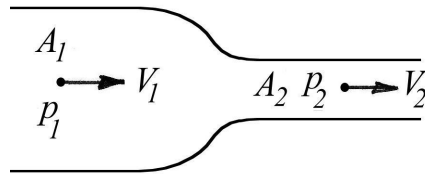

Figure P4.14
4.14 A wind tunnel carrying air of density ρ has two pressure taps in its walls to measure the static pressure, as shown in Figure P4.14. One tap is located upstream of the contraction where the cross-sectional area is A_1 , the velocity is V_1 , and the pressure is p_1 , and the other tap is located in the working section where the area is A_2 , the velocity is V_2 and the pressure is p_2 . If $A_1 \gg A_2$, find V_2 in terms of ρ , p_1 and p_2 . Show your working and state all your assumptions.